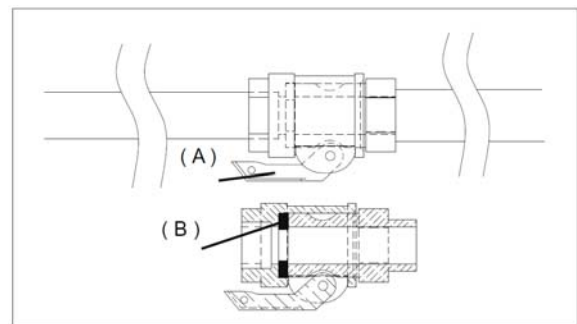

FIG8
(2 -3 seconds operation, 2-3 seconds stopped) and then switch on permanently. Regulate the water to obtain the consistency as recommended by the material manufacturer. Close the air valve to the spray gun. Check the material hoses to ensure perfect condition, that couplings are intact and the relative seals are fitted, and pour approx. 3 litres of grout in the first section and then connect them to the delivery manifold (ref.10) and spray jet. Check that the cam levers (A) of the couplings have been tightened correctly and that the seal (B) is fitted as shown in fig.8.